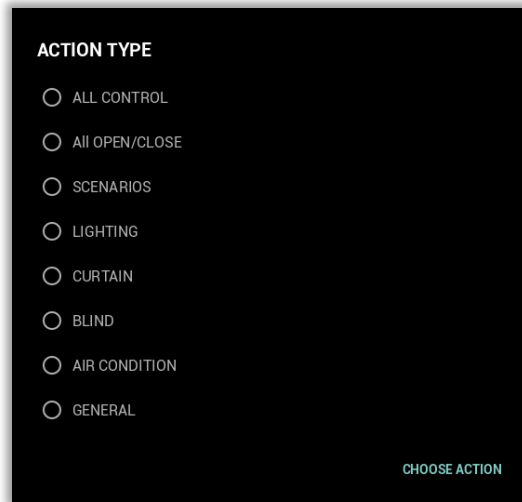

Fig. 36: Create Scenario – Add Scenario Process Step 2
- 3 This touch button is used to show Alarm Action History. (Fig. 36)